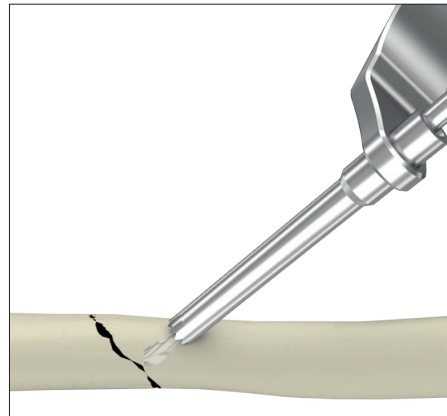
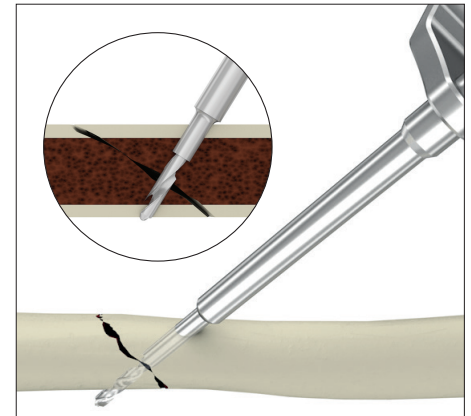

Fig. 16
Fig. 17
1. Over-drill the first cortex using the Ø3.5mm cortical opener (ref 700353, fig. 16) through the corresponding Ø3.5mm end of the double drill guide (ref 705023).
2. Then insert the opposite Ø2.5mm end of the double drill guide (ref 705023) into the pre-drilled hole until the drill guide comes to a stop.
3. Drill through the second cortex using the Ø2.5mm drill bit (ref 705025, fig. 17). Remove the drill bit and drill guide.